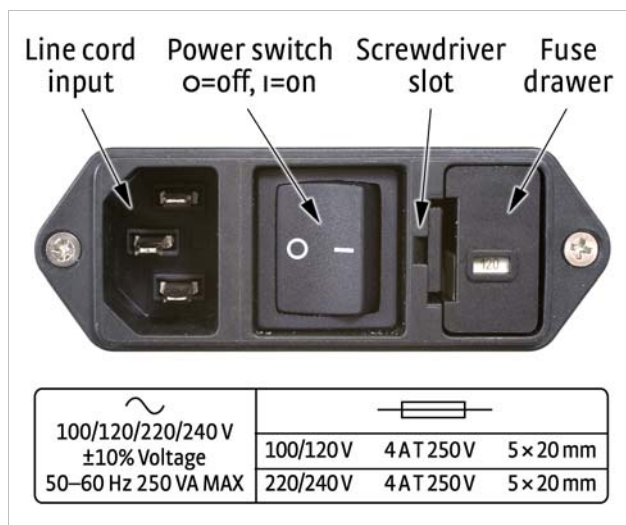

FIGURE 8-2 Power fuse access
1. Identify the line input assembly on the instrument rear panel. See FIGURE 8-2.
2. Turn the line power switch OFF (O).
10. Turn the line power switch On (I) Refer to FIGURE 8-2.
1. Locate the line input assembly on the instrument rear panel. See Figure 8-2.
2. Turn the power switch Off (O).